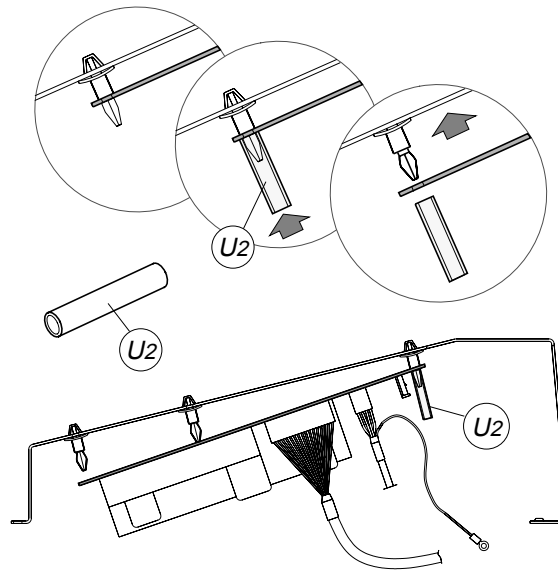

Fig. 41
- 4) with the special tool (U2) provided with the replacement board (fig. 41), release the five clips on the board.